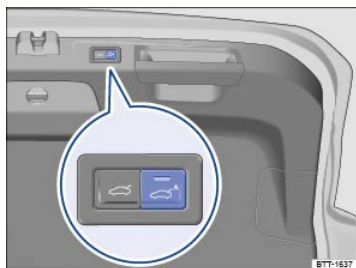

Fig. 74 In the open trunk lid: Button for the automatic closing feature (Easy Close).
- Press the  button in the open trunk lid ⇒ *Fig. 74* until the emergency flashers blink and a chime sounds.
If your vehicle has Keyless Access, it may also be equipped with the Easy Close button ⇒ Fig. 74.